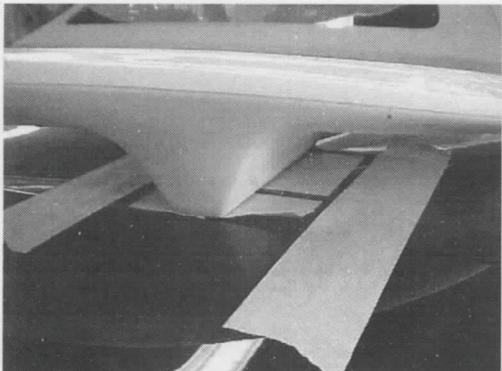

FIG. 5
5. ONCE FINAL MOUNTING POSITION IS DETERMINED, TAPE DRILLING JIGS TO REAR DECK (SEE FIG. 5).